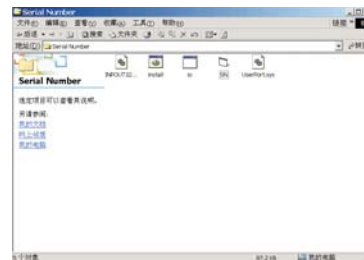

Fig.27
- Unzip the serial number.zip to your computer, then open the folder as shown in Fig.27.